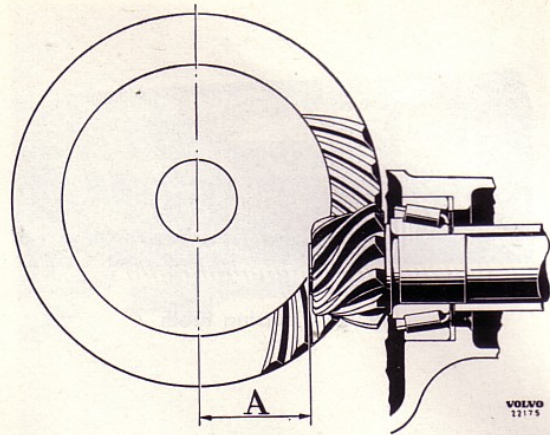

Fig. 40. Pinion location
2. The pinion should have a certain nominal measurement (A, Fig. 40) to the centre line of the crown wheel. Due to tolerances in the manufacturing, there are deviations from the nominal measurement.